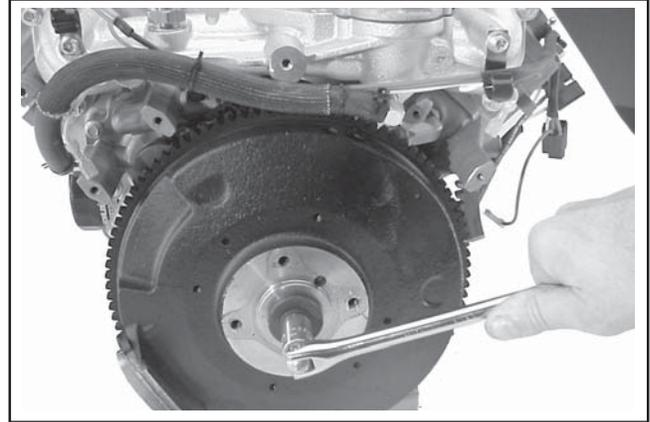

Figure 9-38. Removing Flywheel Screw and Washer.
1. Use a flywheel strap wrench or holding tool (see Section 2) to hold the flywheel. Remove the hex flange screw and flat washer. See Figure 9-38.